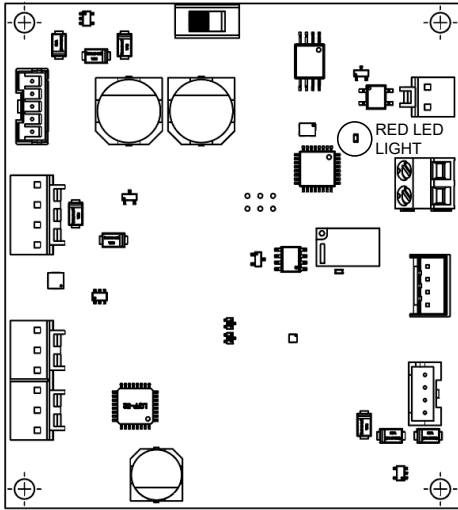

Figure 86. HO₂T Board Power Indicating LED
2. Confirm that the red LED light is on. See **Figure 86**.